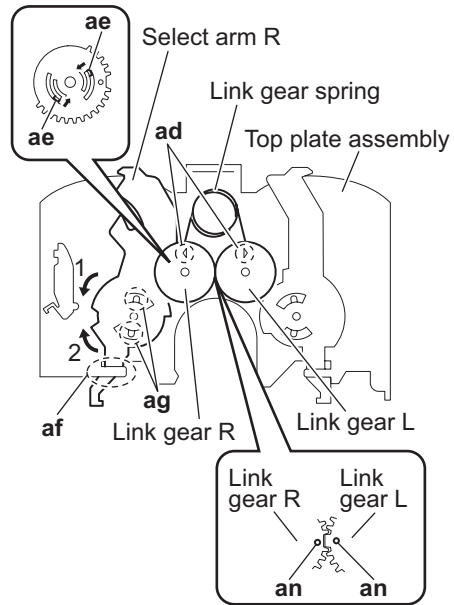

Fig.17
(See Figs.17 and 18)
- (1) From the top side of the top plate assembly, remove the link gear spring from the sections **ad** of the link gear L and link gear R. (See Fig.17.)
- (2) Remove the link gear R in an upward direction while releasing the claws **ae** of the link gear R in the direction of the arrow. (See Fig.17.)
- (3) Move the select arm R in the direction of the arrow 1 to remove the sections **af** of the top plate assembly. (See Fig.17.)
- (4) Move the select arm R in the direction of the arrow 2 and remove the select arm R from the sections **ag**. (See Fig.17.)
- When reattaching the link gear R, attach it after aligning the hole **an** of the link gear R to the hole **an** of the link gear L. (See Fig.17.)